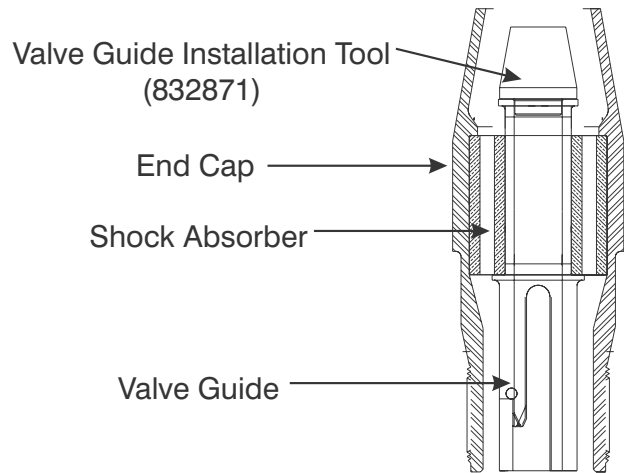

Figure 8-17. Insert Valve Guide Tool.
- Support the edges of the End Cap (16) with standard blocking.
3. Insert the Valve Guide Installation Tool 832871 in the Valve Guide (7) as shown in Figure 8-17.